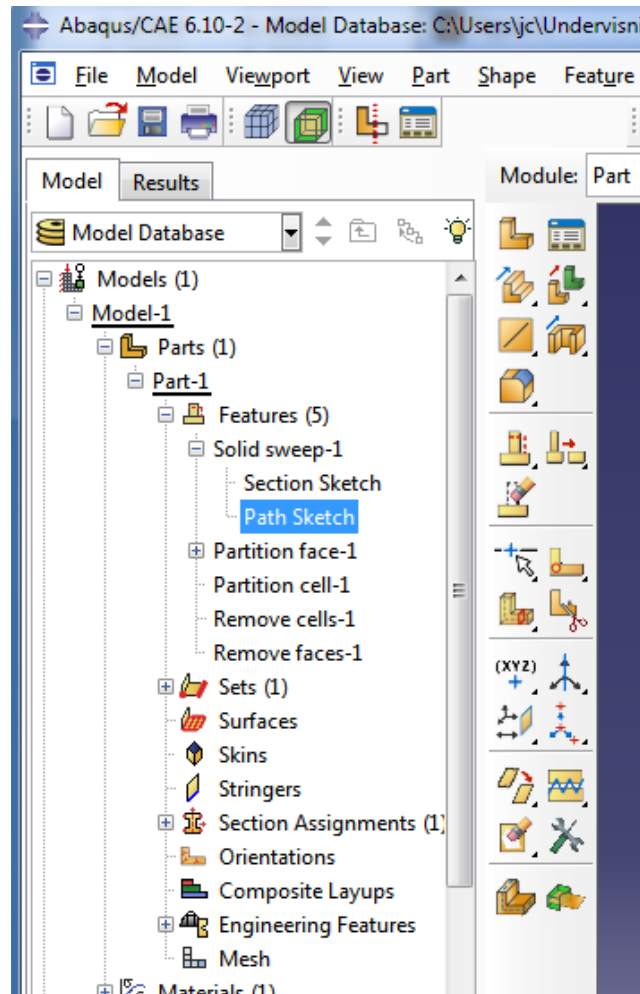

Figure 15. The part – Features tree.
2. Expand the Parts tree --> Part-1 --> Features as shown in Figure 15